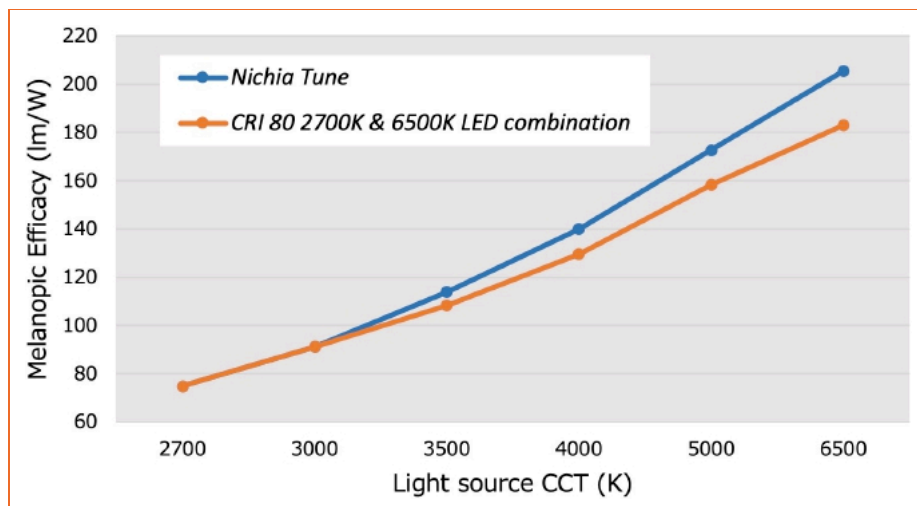

Figure 3: Melanopic performance of *Nichia Tune* and a currently available CCT tunable LED solution at different CCT settings of the light sources.
In the current market environment, energy efficiency is still considered one of the primary properties of a lighting product. When comparing the efficacy of the melanopic light, *Nichia Tune* outperforms existing CTT solutions. Figure 3 shows the higher melanopic efficacy (Equation (3)) of the *Nichia Tune* at different CCT settings. At higher CCTs the percentual difference in
The comparisons of performance of the *Nichia Tune* in Figure 3 and Figure 4 are made against a combination of Nichia CRI 80 2700 K LEDs and CRI 80 6500 K LEDs.